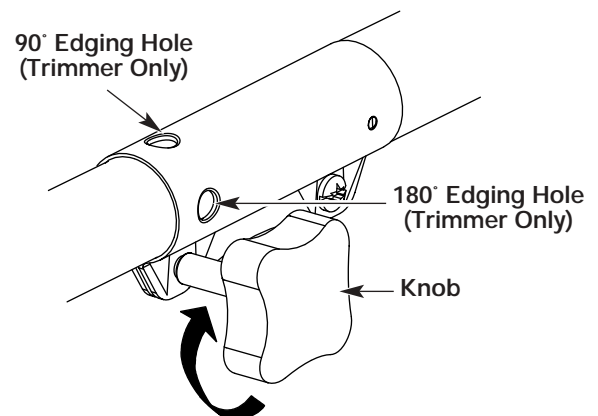

Figure 11
3. Turn the knob clockwise to tighten. See Figure 11.
For edging (when using the line head cutting attachment with EZ-Link™ models), lock the release button of the cutting attachment into the **90° edging hole** or the **180° edging hole**. See Figure 11.